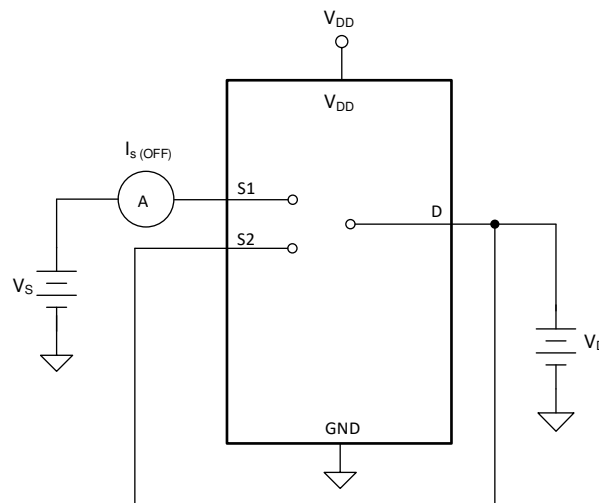

**Figure 6-1. On-Resistance Measurement Setup**
The on-resistance of a device is the ohmic resistance between the source (Sx) and drain (D) pins of the device. The on-resistance varies with input voltage and supply voltage. The symbol  $R_{ON}$  is used to denote on-resistance. The measurement setup used to measure  $R_{ON}$  is shown in Figure 6-1. Voltage (V) and current ( $I_{SD}$ ) are measured using this setup, and  $R_{ON}$  is computed with  $R_{ON} = V / I_{SD}$ :